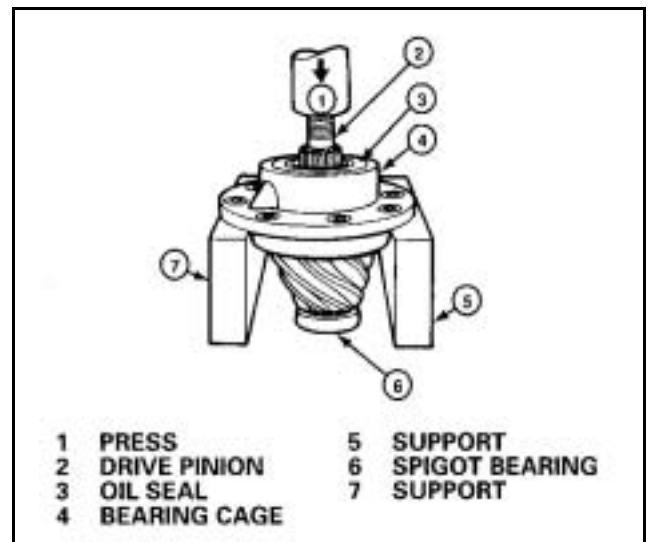

Figure 27
1. Place the drive pinion and bearing cage in a press. The pinion shaft must be toward the top of the assembly. **Figure 27.**
2. Support the bearing cage under the flange area with metal or wood blocks. **Figure 27.**
3. Press the drive pinion through the bearing cage. **Figure 27.**